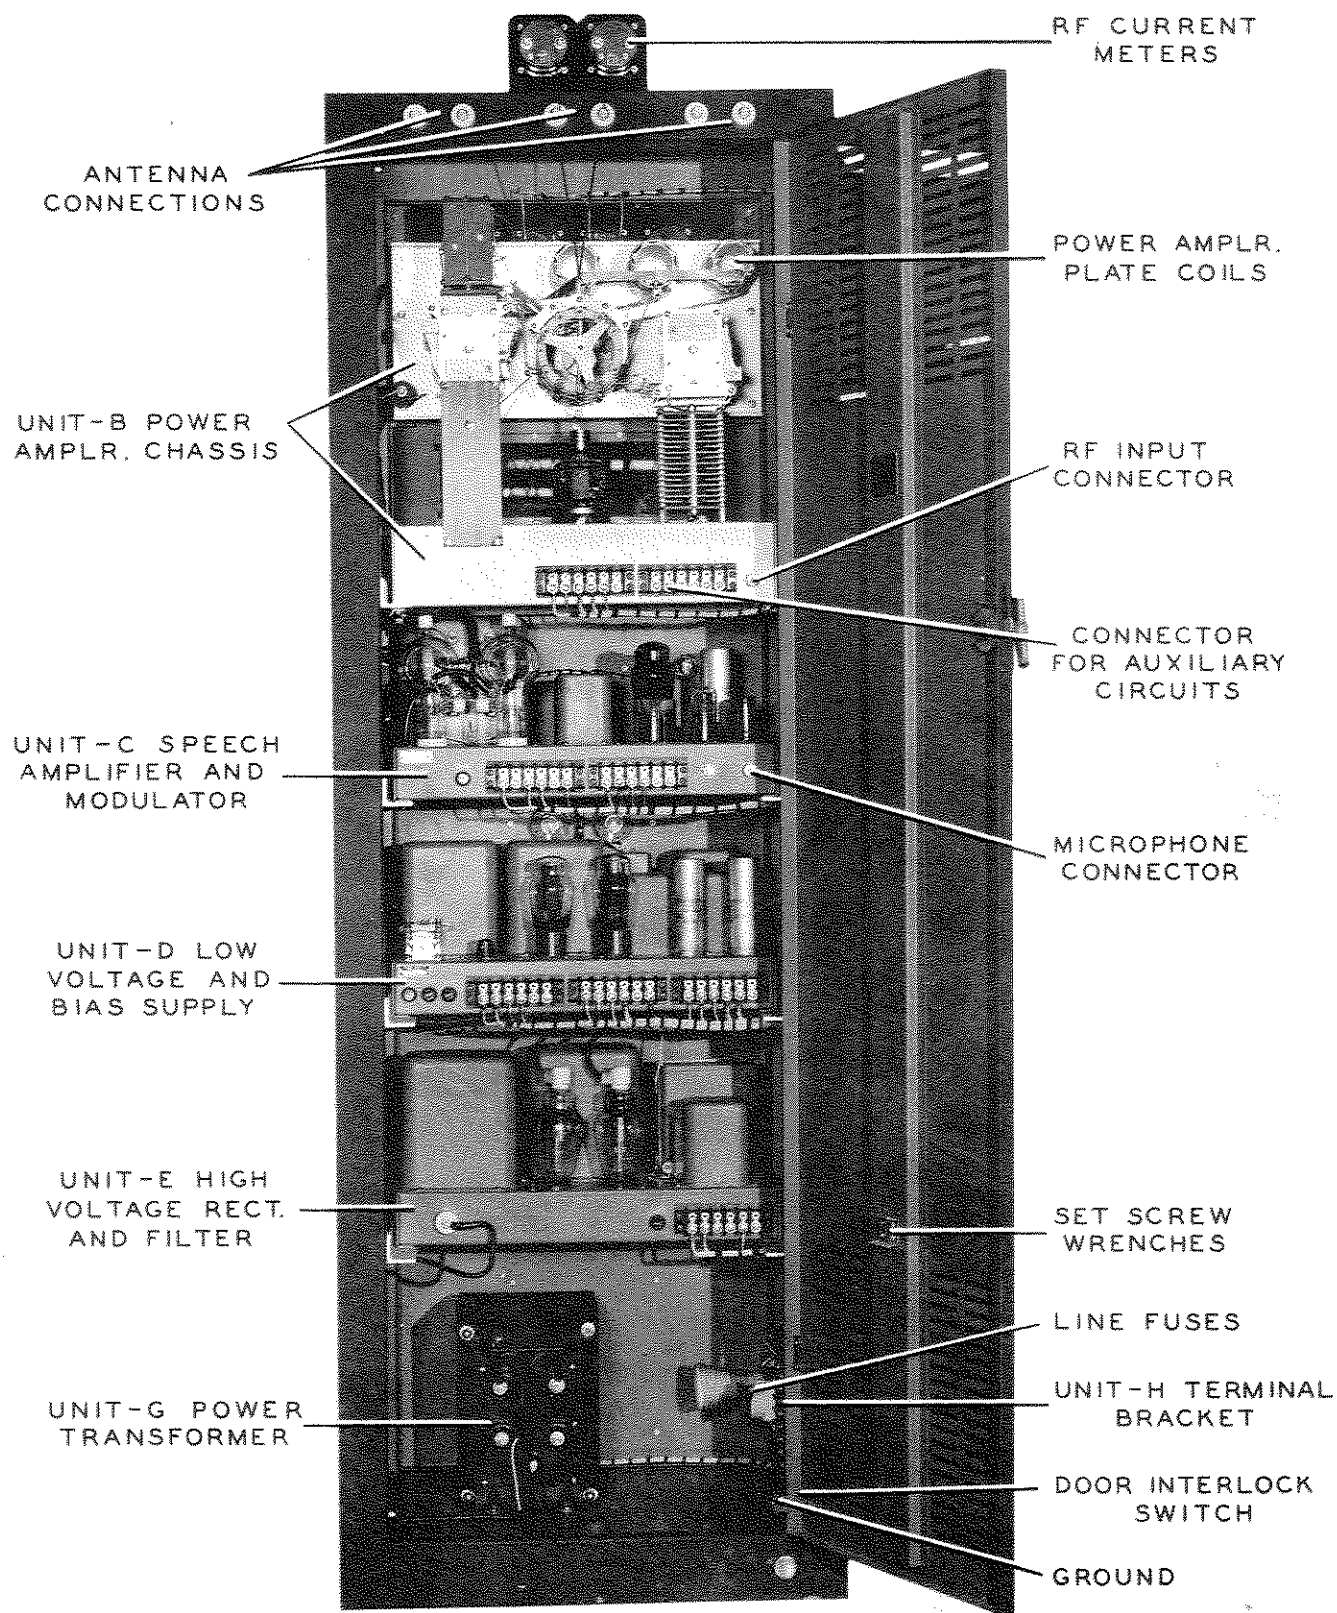

FIGURE 3-3 TRANSMITTER - REAR OPEN
f. ANTENNA TERMINATION. - Refer to figure 3-3. The antenna tuning unit incorporated in the 30K transmitter is a condenser - coil combination which can be conveniently changed from a series to a parallel tuned circuit. The inductance of the coil and the place of antenna feeder attachment can be changed at will, with the result that practically any type of antenna or antenna feeders can be employed. In order to cover the entire frequency range of the transmitter, two sets of plug-in coils are used. One set covers the 10, 11, 15 and 20 meter bands while the other set is used on the 40 and 80 meter bands. The coil units plug into a jack strip mounted on top of the antenna tuning condenser. The antenna coils are split and a moveable link inserted between the sections. This link is actually a continuation of the power amplifier plate tank coil. The connection between the two sections of the antenna coil is actually a small jumper which, when opened, places the antenna tuning capacitor in series with the antenna coil thus making it possible to tune extremely low impedance antennas or transmission lines. When this jumper is closed, the tuning capacitor is in parallel with the coil and high impedance antennas and transmission lines can then be tuned.
(2) INSTALLATION OF UNITS. - Reference to the photographic illustrations will assist in the assembly of the transmitter. See figure 3-3. Any cords designed to hold the cable in place for shipment should be untied and removed. Place the heavy plate power transformer onto the bottom of the cabinet and make the connections indicated by the white tags tied to the cable lugs. After this, the power transformer may be placed over the mounting holes and bolted into place if desired. Proceed with the placement of units from the bottom to